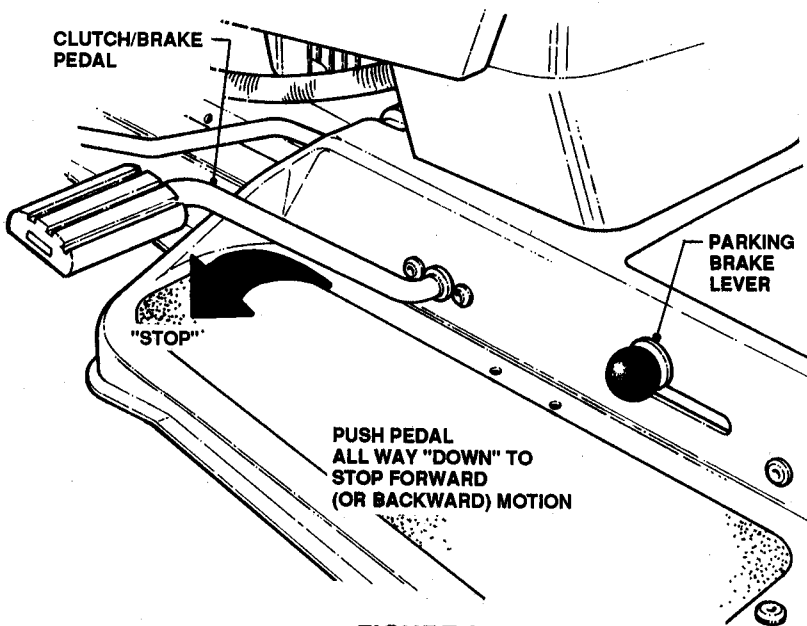
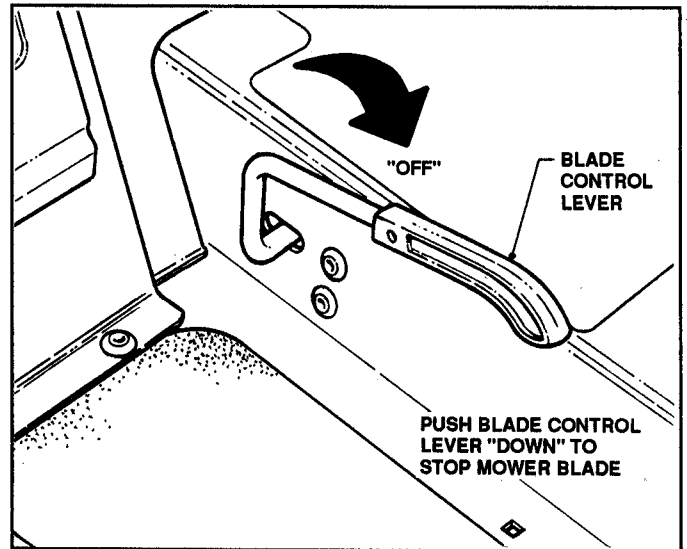

FIGURE 3
FIGURE 4
WHEEL DRIVE: STOP FORWARD MOTION of mower by pushing CLUTCH/BRAKE PEDAL all the way "DOWN". See Figure 3.
MOWER BLADE: STOP MOWER BLADE by pushing BLADE CONTROL LEVER downward to "OFF". See Figure 4.
2. **PUSH BLADE CONTROL LEVER** downward to "OFF" position (Figure 4) and fully depress the **CLUTCH/BRAKE PEDAL** (Figure 3), so that Safety Interlock System will allow engine to start.